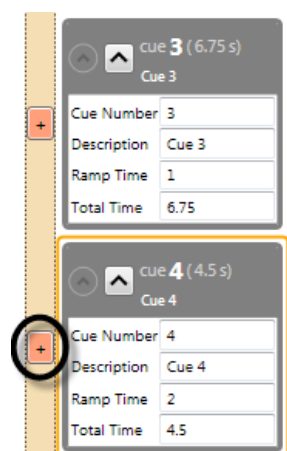

Figure 243
1. Click the **Add Link** button next to the **Child Cue** (Figure 243).